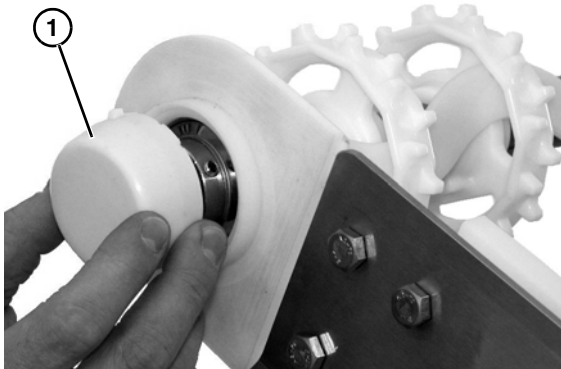

Figure 54
3. Remove bearing cover (Figure 54, item 1).